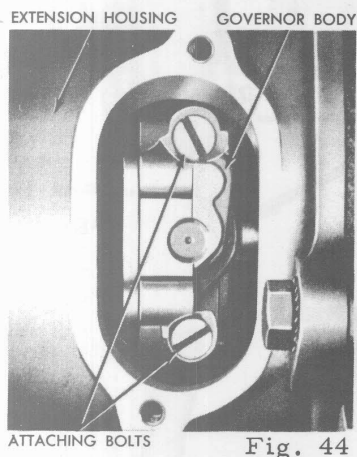

Fig. 44
- ☒ Turn the drive shaft until the governor is aligned with the inspection hole (Fig. 44).